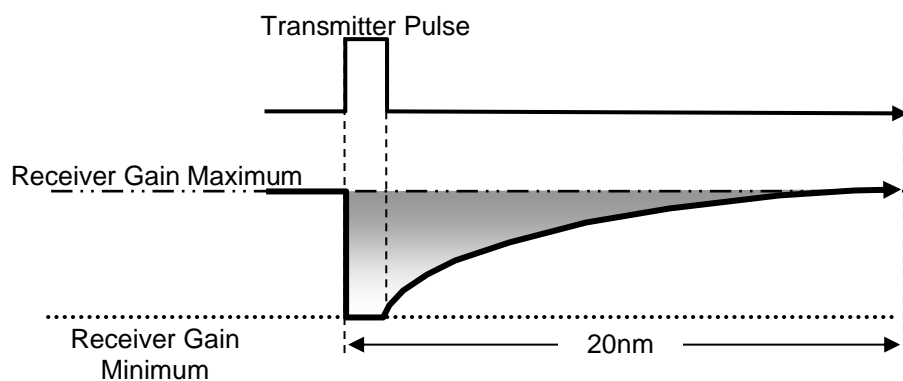

Figure 7 – Swept Gain or Sensitivity Time Control (STC)
43. Figure 7 shows a typical Swept Gain/STC waveform in relation to the transmitted pulse. As the transmitter fires, the Swept Gain/STC circuit decreases the receiver gain to minimum, at the end of the transmitted pulse the gain is gradually increased to the maximum at some pre-determined range from the radar e.g. 20 nm.